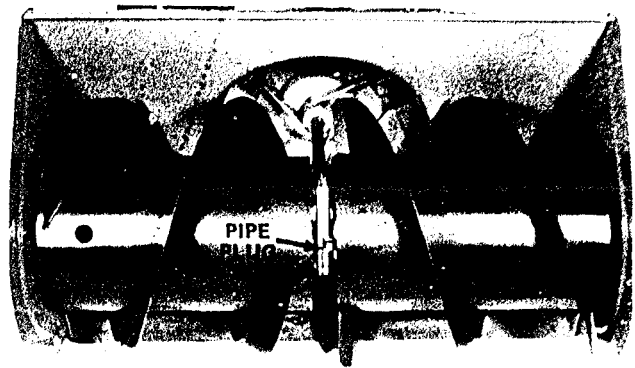

Figure 15
2. Remove pipe plug from gear box (Fig. 15); then check level of oil in gear box. Oil must be at point of overflowing in filler opening.
4. Install pipe plug in gear box (Fig. 15).